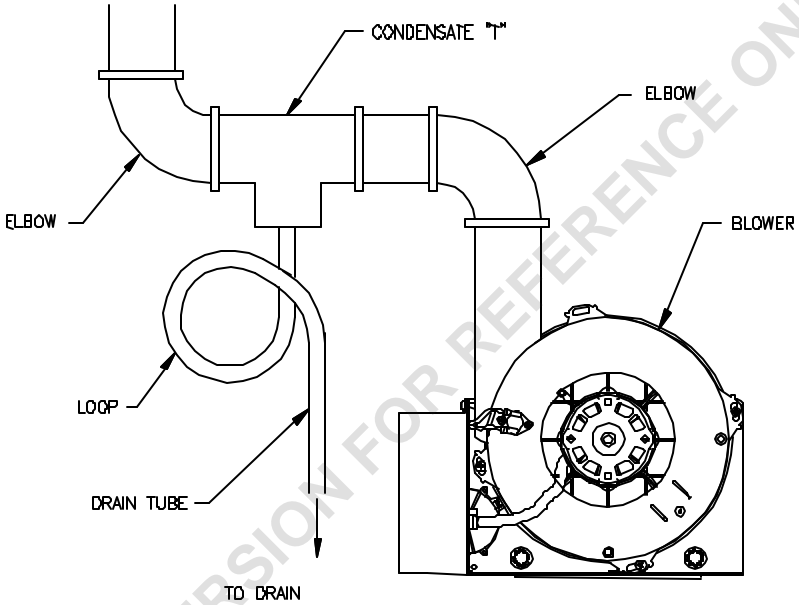

Figure 2
3. In order to prevent condensate from draining back into the blower (vertical or horizontal runs), a drain tee and condensate trap can be installed in the horizontal vent as close as practical to the blower vent connection (see Figure 2). The condensate disposal tube should be installed to drain any accumulated condensate away from the water heater and to a suitable drain. The drain tee and condensate hose are not available from Bradford White, but should be available through your local distributor.